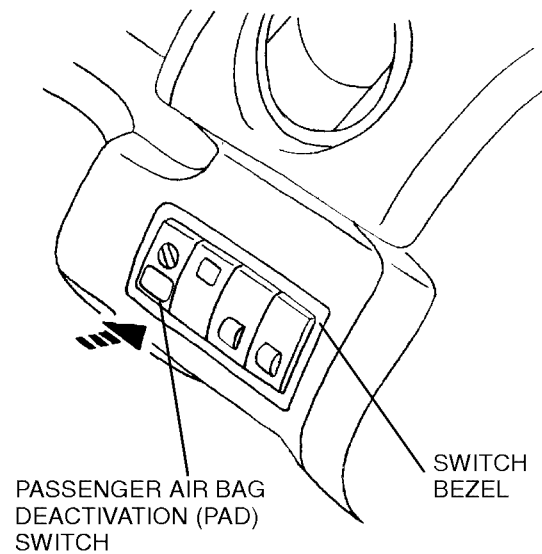

FIGURE 24
5. Connect each connector to each switch of the switch bezel and install the switch bezel (refer to Figure 24).